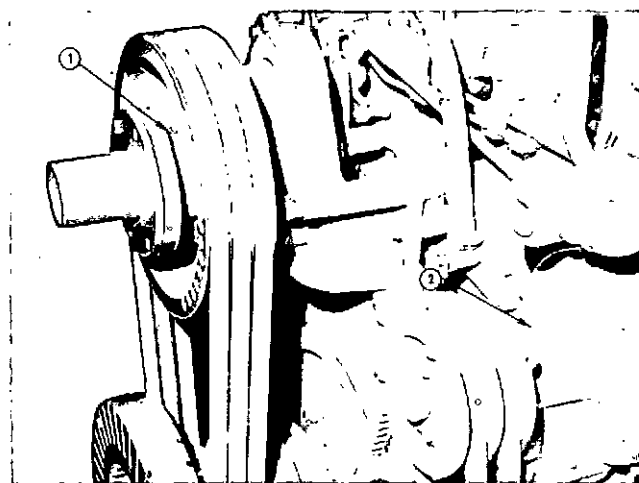

Fig. 5-32. Fan hub and water pump lubricating point
1. The water pump and fan hub contain plugs (1 and 2, Fig. 5-32) through which grease may be applied; give one "shot" (approx. 1 tablespoon) each "E" check.